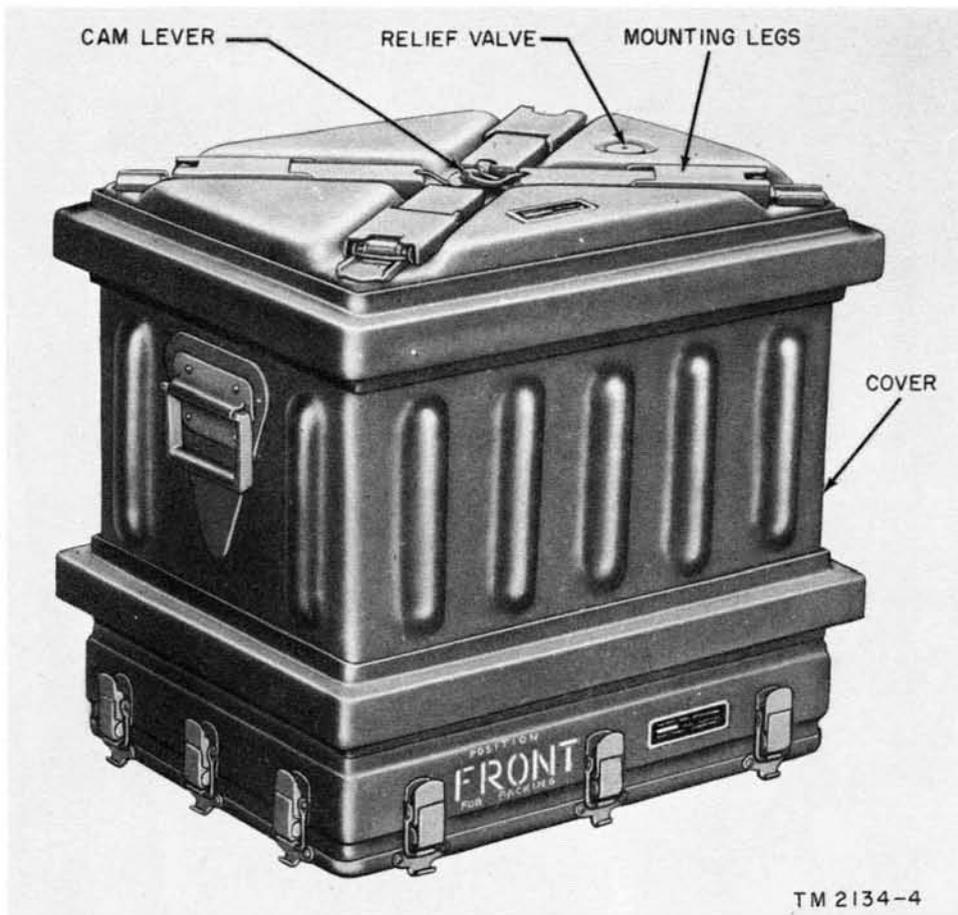

Figure 4. Manual Telephone Switchboard SB-86/P, assembled for carrying.
*a. Exterior* (fig. 4). The switchboard exterior is an olive-drab, splashproof metal case. The case forms the protective cover for all components of the switchboard when it is not in service and is used as a base for the switchboard when it is in service. Figure 4 illustrates the top, front, and left side of the metal case. The legs, which increase the height of the switchboard when it is installed, are recessed in the top of the metal case and are locked in place by a cam lever. A pressure relief valve is located in the right center of the top of the metal case. The bottom of the case, which forms the base for the keyshelf section is clamped to the cover by 12 trunk-type latches. A carrying handle on each side of the case enables two men to carry the SB-86/P.
*d.* Unlock the switchboard legs and lock them in the extended position as explained in subparagraphs (1) through (3) below.
- (1) Release the cam lever (fig. 4).
- (2) Rotate the retaining plate until the legs are released.